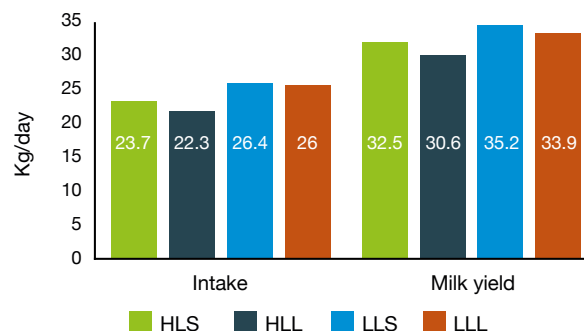

Figure 55. Dry matter intake and milk production for Experiment 1
- Milk production followed a similar trend (Figure 55)